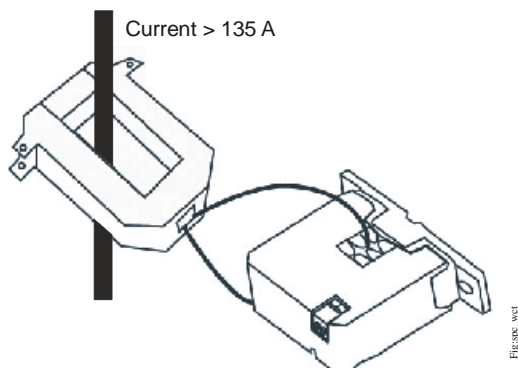

Figure 5: CSD with CT Transformer
Use a 5 A Current Transformer (CT) to reduce the current passing through the CSD as shown in Figure 5. Run the current transformer secondary wire through the sensing hole. Terminate the two secondary wires of the 5 A current transformer to each other, and then install the 5 A current transformer on the monitored conductor.